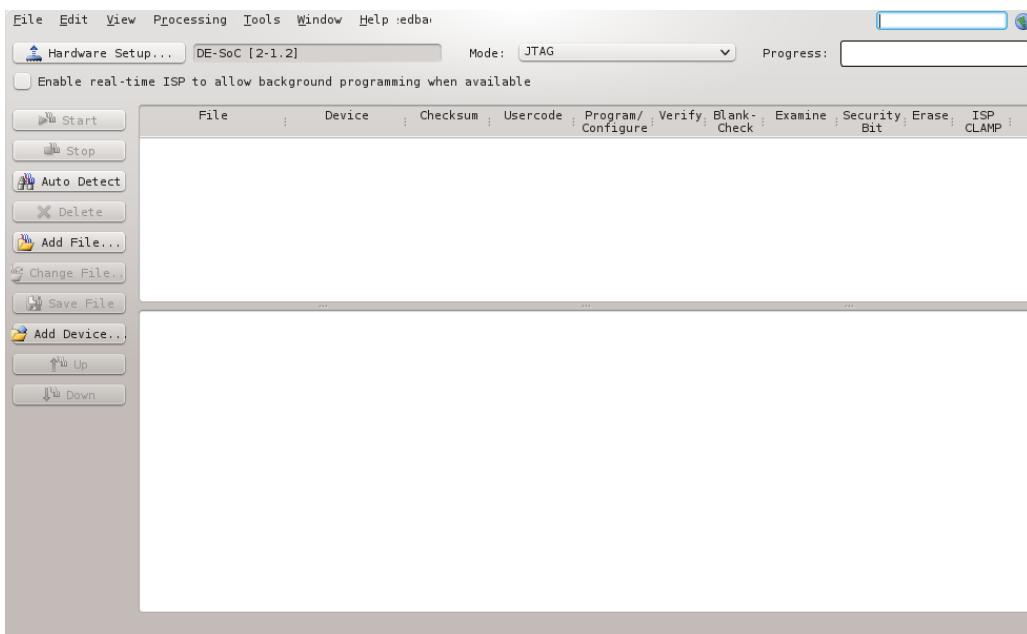

Figure 9-18. Quartus Prime Programmer
44. Choose the “Auto Detect” button on the left of Figure 9-18, then choose “5CSEMA5”, as shown in Figure 9-19.